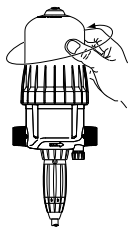

Fig. 15
- Unscrew and remove bell-housing by hand (Fig. 15).